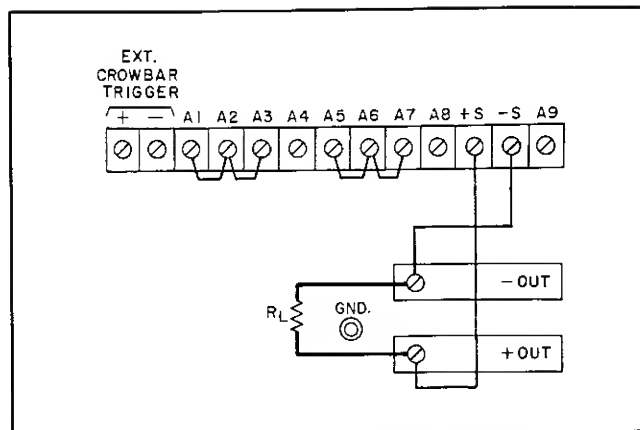

Figure 3-2. Normal Strapping Pattern
a. Turn CURRENT controls (7) and OVERVOLTAGE ADJUST potentiometer (5) fully clockwise and check that rear panel straps are connected as shown in Figure 3-2, but do not connect load R_L .
c. Set LINE switch or circuit breaker (1) ON and observe that pilot lamp (2) lights.
d. Adjust COARSE and FINE VOLTAGE controls (3) for desired indication on voltmeter (4).
e. Ensure that overvoltage crowbar circuit is operational by slowly turning OVERVOLTAGE ADJUST control (5) counterclockwise with a screwdriver until OVERVOLTAGE lamp (6) lights and voltmeter indication drops to zero volts.
g. To check the constant current circuit, first turn off the supply, connect a short across the output bus bars (see Figure 3-2), and turn it back on.
h. Adjust **COARSE** and **FINE CURRENT** controls ⑦ until ammeter ⑧ indicates desired output current or current limit. (The **VOLTAGE** controls must be set for a greater-than-zero output to obtain the output current programmed.)
3-7 This power supply was shipped with the proper rear panel strapping connections made for constant-voltage/constant-current operation with local sensing and local programming. This strapping pattern is illustrated in Figure 3-2. By means of the front panel voltage and current controls, the operator selects either a constant-voltage or a constant-current output. Whether the supply functions in the constant-voltage or the constant-current mode depends on the settings of the voltage and current controls and on the resistance of the output load. For values of load resistance greater than a critical crossover value equal to the voltage setting divided by the current setting, the supply operates in the constant-voltage mode. With a load resistance smaller than this critical value, it operates in the constant-current mode. The transition occurs automatically; no switches need to be operated or connections changed.
3-28 Because of the unavoidable voltage drop developed in the load leads, the normal strapping pattern shown in Figure 3-2 will not provide the best possible voltage regulation at the load. If, for example, one were to use 4-gauge wire to connect a load that is located only 5 feet from a
The +S jumper is the one that links the +S terminal to the +OUT terminal when the supply's terminals are strapped for normal operation as shown in Figure 3-2. The -S jumper is the one that links the -S terminal to the -OUT terminal.